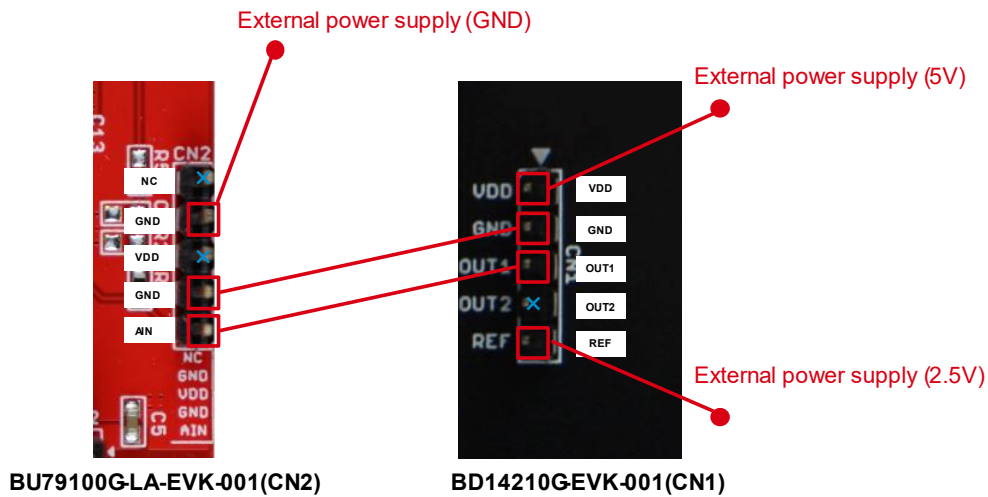

Figure 4. Connection of BU79100G-LA-EVK-001 and BD14210G-EVK-001
1. Connect BU79100G-LA-EVK-001 and the external power supply to BD14210G-EVK-001. (Figure 4)